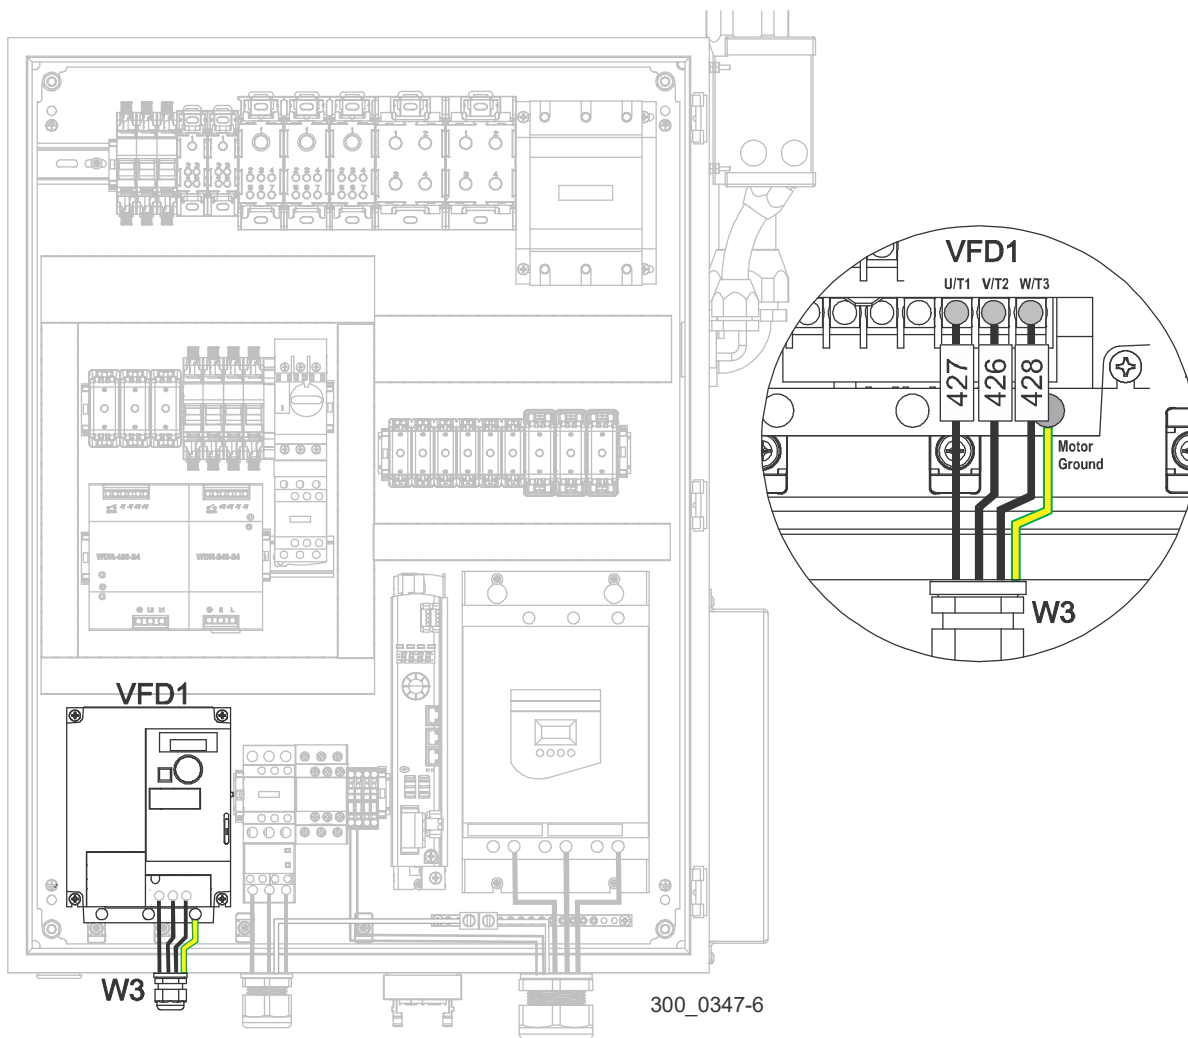

FIG. 3-17 HIGH VOLTAGE BOX
1. Route the feed motor cable (W3) through the connector W3 located at the bottom of the high voltage box and secure as necessary. See Fig. 3-17.